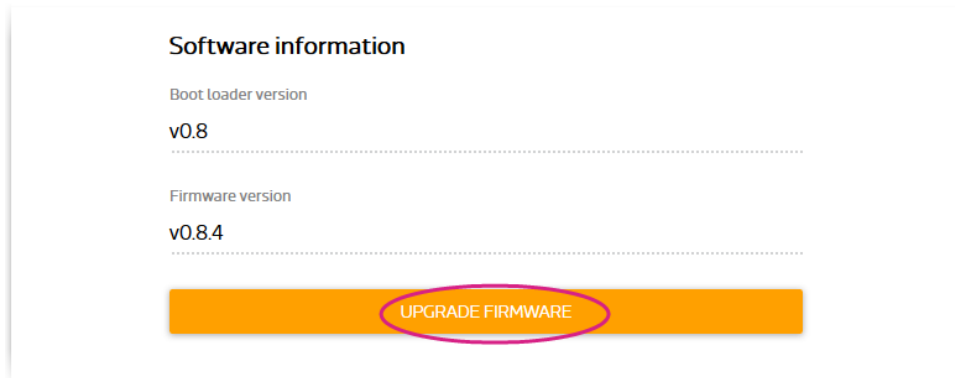

Figure 24 Firmware upgrade button
- 2) After you’ve signed in, click on the **UPGRADE FIRMWARE** as shown in Figure 24.